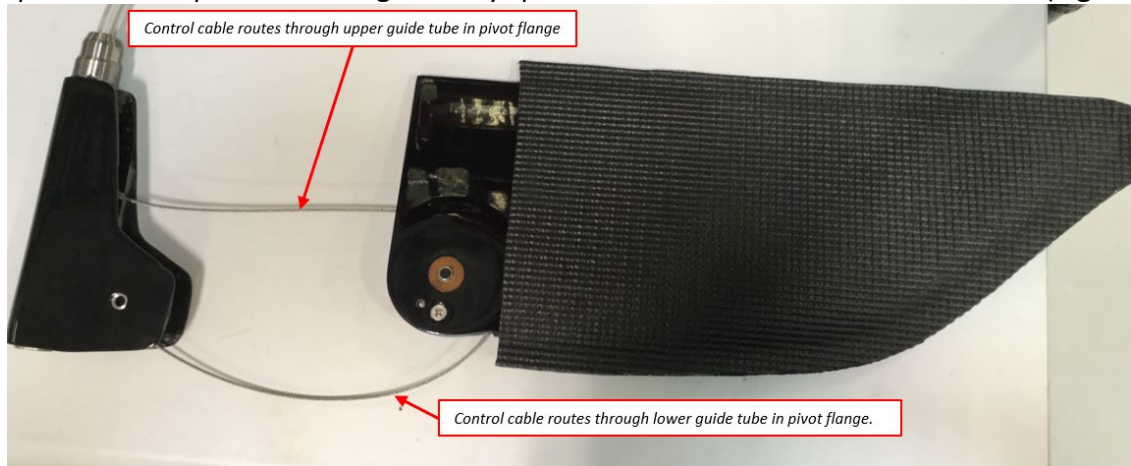

Figure 7. Control Cable Routed around Puck
- j. Pull the cable ends out through the top of the pivot flange while guiding the rudder into position with pivot bores aligned. Pay special attention as to not kink the cable. **(Figure 7)**